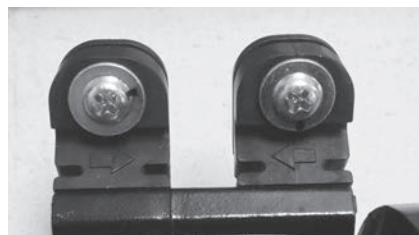

Figure 187 - Water pump gasket boot orientation
- 25** Remove the four (4) gasket boots with screws from the old water pump by sliding them out of the brackets. Note orientation of gasket boots for proper installation to new water pump. See Figure 187.
- 29** Dip the ends of the four (4) gasket boots in water and slide them into the brackets on the new water pump. The water will help gaskets slide smoothly into brackets. Directional arrows on gasket boots must be pointing inward toward one another. See Figure 187.